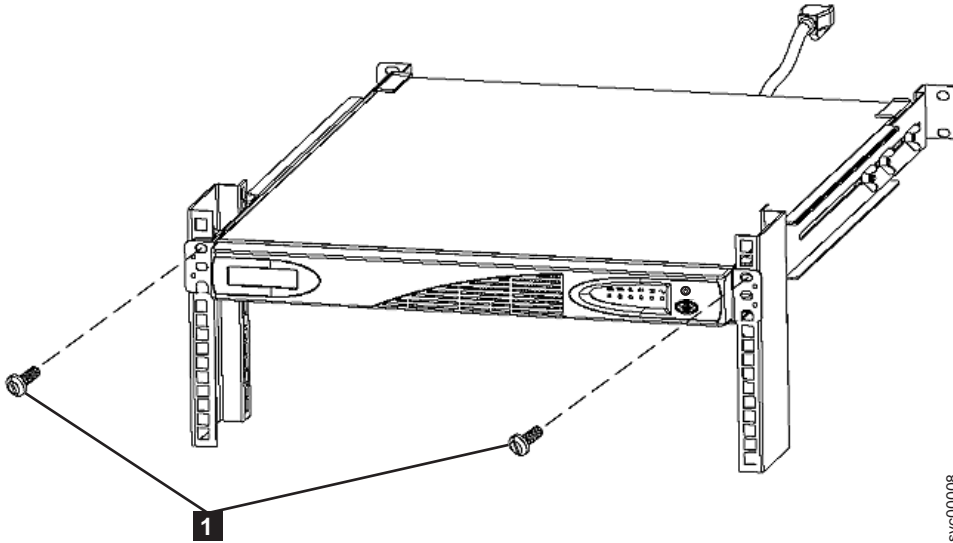

Figure 316. Mounting screws for the 2145 UPS-1U
4. At the front of the 2145 UPS-1U, install the two mounting screws ( **1** in Figure 316 on page 312).